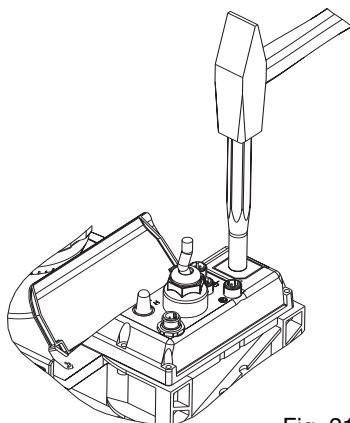

Fig. 21
- ▶ Place the S3Ca on a firm surface with the relay opening press-out section at the top (see fig. 21)